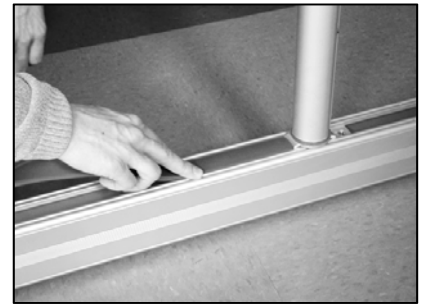

Figure 11
- Measure the distance between the post base and the end of the bath base rail. Cut and install the blue bath base cover into the bath base rail by squeezing the sides of the strips into the edges of the rail (see Figure 11).